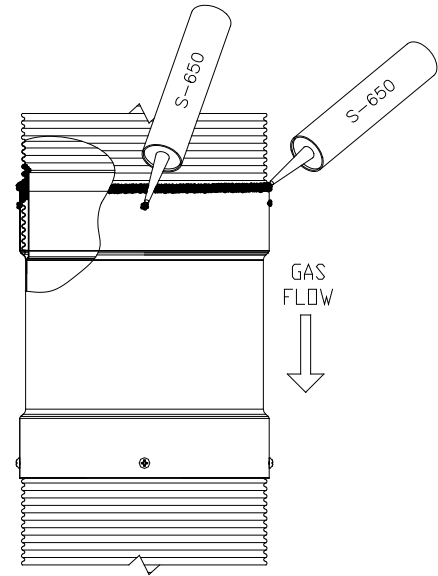

Figure 23 - SecureSeal Flex S-650 caulking
3.3. Push the adapter on the liner all the way in, until you can't see the mark made on the flexible liner earlier. Add a bead of the S-650 red caulking all around the outer junction of the adapter and the flexible liner to make sure everything is well sealed. Also add over the screw holes (**Figure 23**).